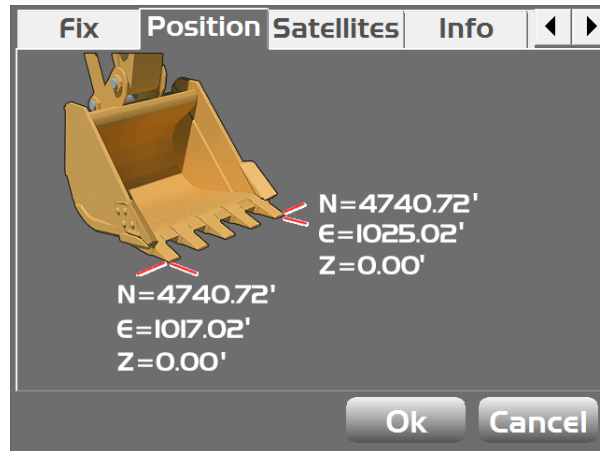

Figure 72: Same Northing Values in 3D-MC
3. Position the machine directly north. Both bucket edges will have the same northing value (Figure 72).
3. Position the machine directly north. Both bucket edges will have the same Northing value (Figure 72 on page 52).
3. Position the machine directly North (both edges of the bucket will have the same Northing value) (Figure 72 on page 52).